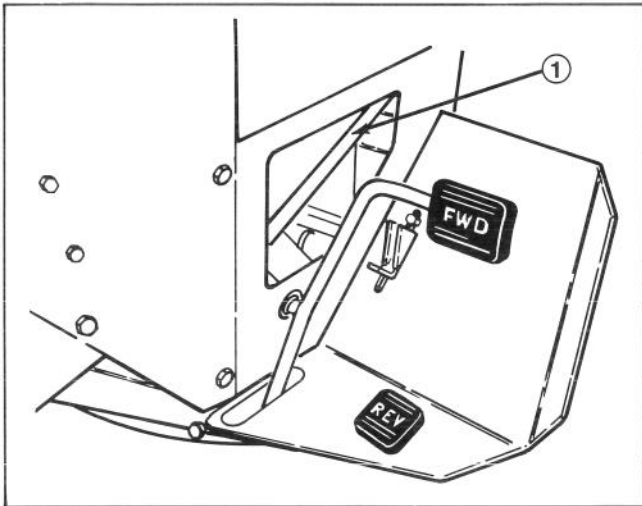

Figure 40
2. Loosen jam nuts on each end of traction rod (Fig. 40).